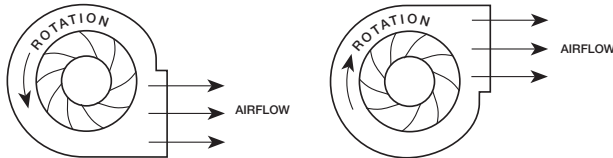

Figure 4:
3. **Wheel Rotation:** Direction of wheel rotation is critical. Check wheel rotation by momentarily energizing the unit. Improper rotation will result in reduced airflow and pressure capabilities. Rotation is always in the same direction as airflow at the outlet. See housing and wheel examples in Figure 4.
3. Start the fan and shut it off immediately to check rotation of the wheel with directional arrow in the motor compartment, see Figure 4.
Unit running backwards	Correct as shown in Figure 4.